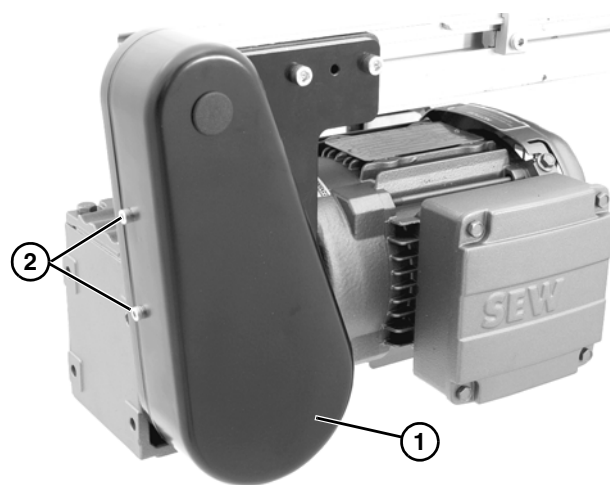

Figure 13
10. Install cover (**Figure 13, item 1**) with four (4) screws (**Figure 13, item 2**). Tighten to 35 in-lb (4 N-m).